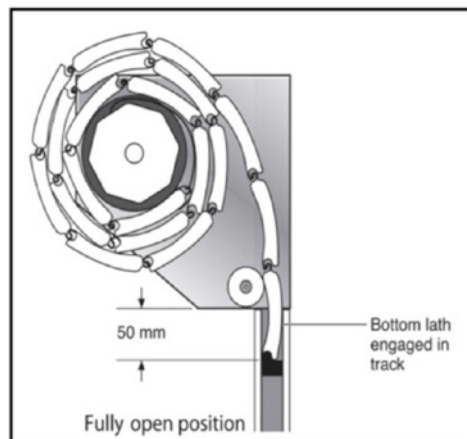

Fig 21
Set open position as shown in **Fig 21**.
- Check that bottom lath is correctly engaged into track when fully open, as shown in **Fig 21**.